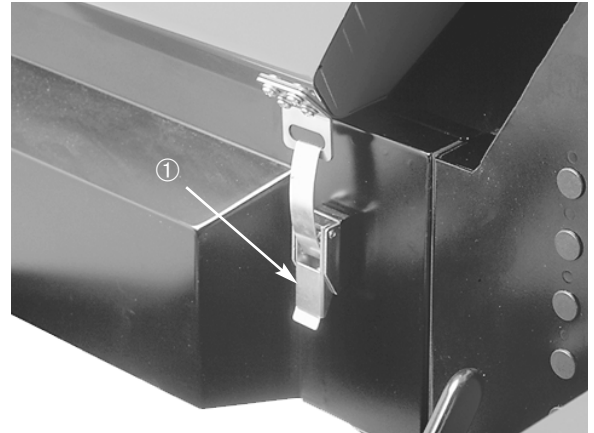

Figure 1
2. Release the engine cover latches (Fig. 1) and open the engine cover.